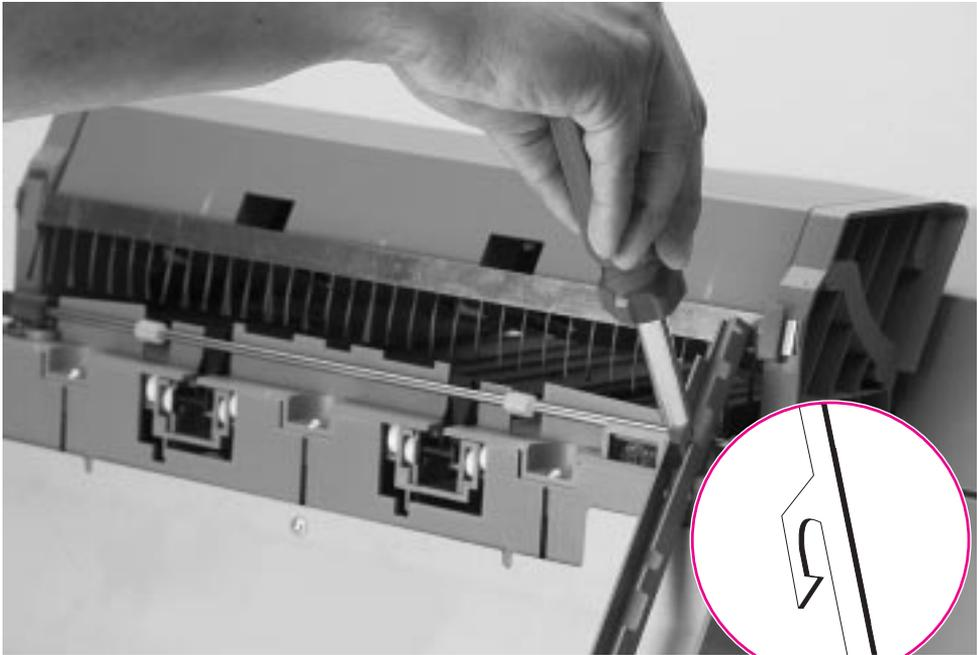

Figure 6-81 Back Plate (1 of 2)
- 2 Remove the Scan Bar by carefully pressing the tab on the scan bar backwards and downwards through the hole of the Stapler Bed (see figure 6-81) with a flat-tip screwdriver, then lift the bar.
- 2 Remove the Back Plate (see figure 6-81).
- 2 Open the Top Cover Assembly, and remove the Back Plate (see figure 6-81 on page 250).
- 2 Remove the Back Plate (see figure 6-81 on page 250).